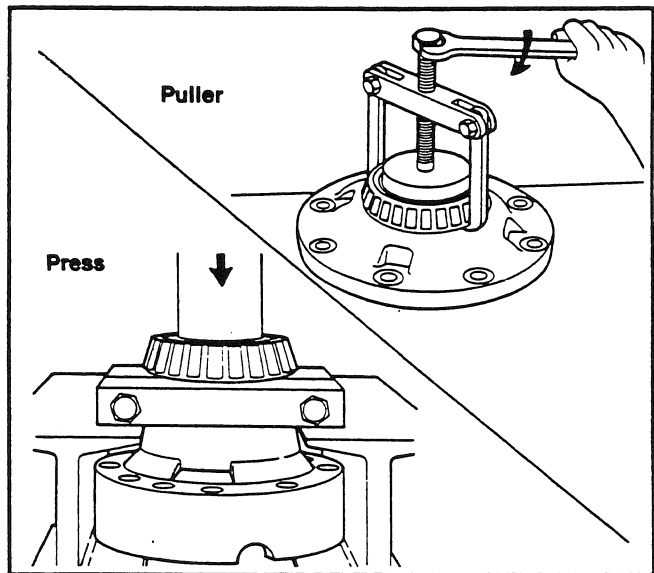

Fig. 17
4. If you are replacing the differential bearings, remove the bearing cones from the case halves. Use a bearing puller or press (see Fig. 17).